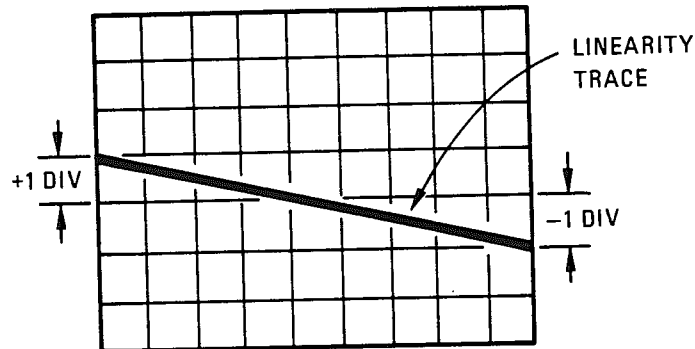

Figure 5-8. FM Linearity Display
4. Set variable-phase generator's reference phase output for a 1 kHz signal at an amplitude that gives a 2.56 MHz peak deviation indication on the Signal Generator's panel meter. Set linearity circuit's voltage divider switch to 100. Adjust generator's variable phase output's phase for a straight line on the display as shown in Figure 5-8. Adjust oscilloscope's vertical gain for ± 1 division at edge of display.